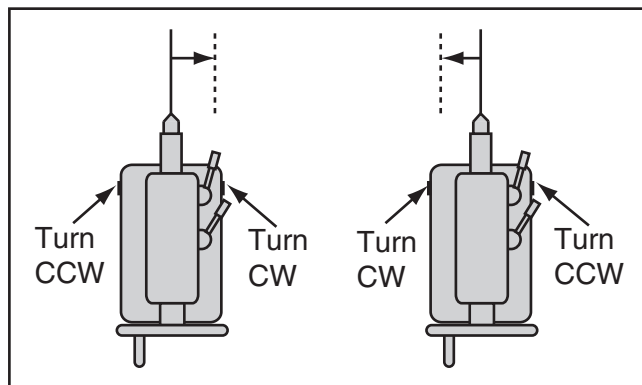

Figure 37. Example of set screw adjustment in relation to tailstock movement.
3. Rotate adjustment set screws in opposite directions for desired offset (see **Figure 37**).